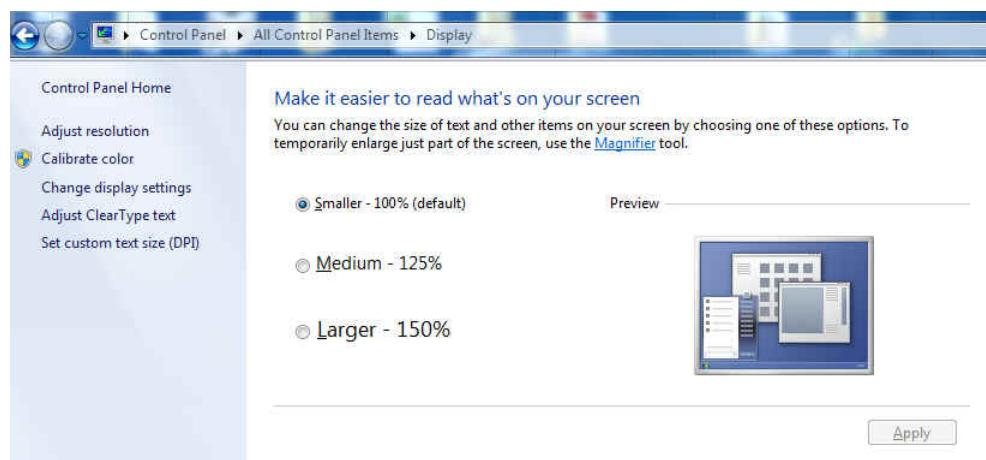

Figure 49. Setting Font Size on Windows 7 Operating System
- Change the size of text to Smaller – 100% for optimum viewing experience on Windows 7 operating system as shown in Figure 49.